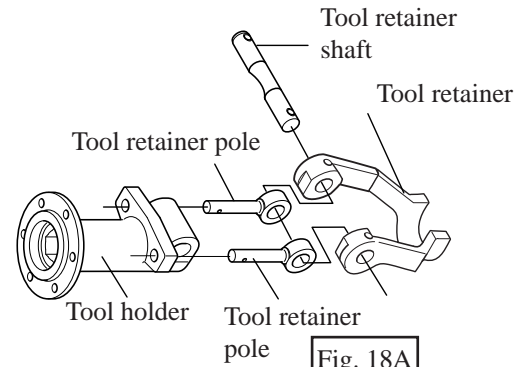

Fig. 18A
- (2) Take off spring pins 8-40 by striking with hammer as illustrated in Fig. 18. Then, tool retainer section can be disassembled as illustrated in Fig. 18A.